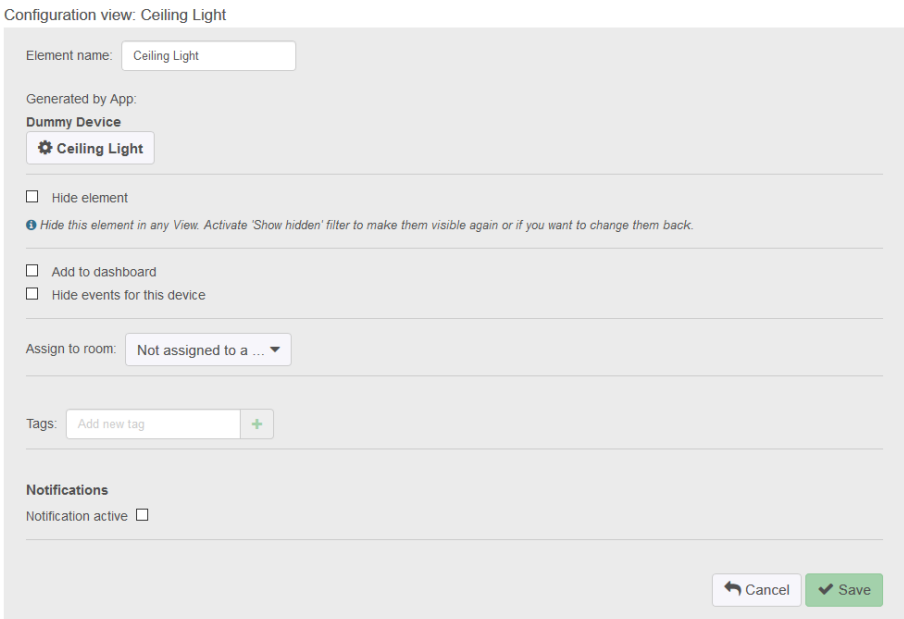

Figure 4.15: Element configuration
Every element has its own configuration dialog (Figure 4.15). Clicking on the gearwheel symbol ⚙️ on the upper right-hand side opens this dialog. Figure 4.15 shows the upper part of the element configuration dialog.
- If this element is created by an app (e.g. Dummy Device, Figure 4.15), a click on the button will forward you to its referred app configuration (4.4).